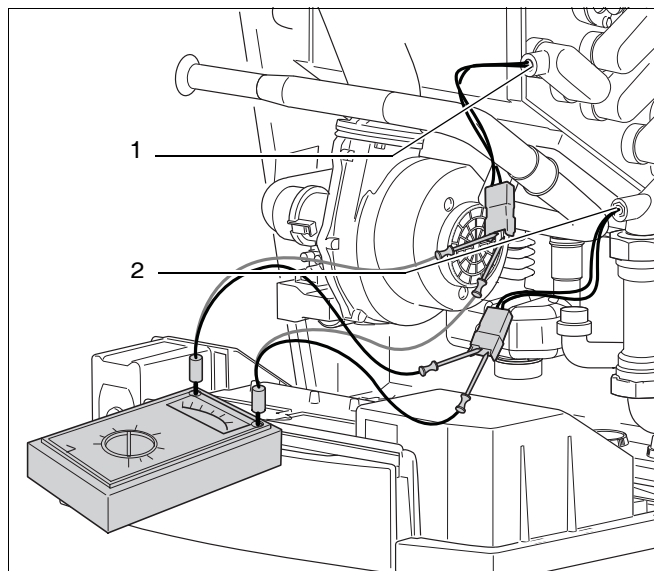

fig. 14 Checking the supply/return sensors
Supply sensor see fig. 14, pos. 1.
Return sensor see fig. 14, pos. 2.